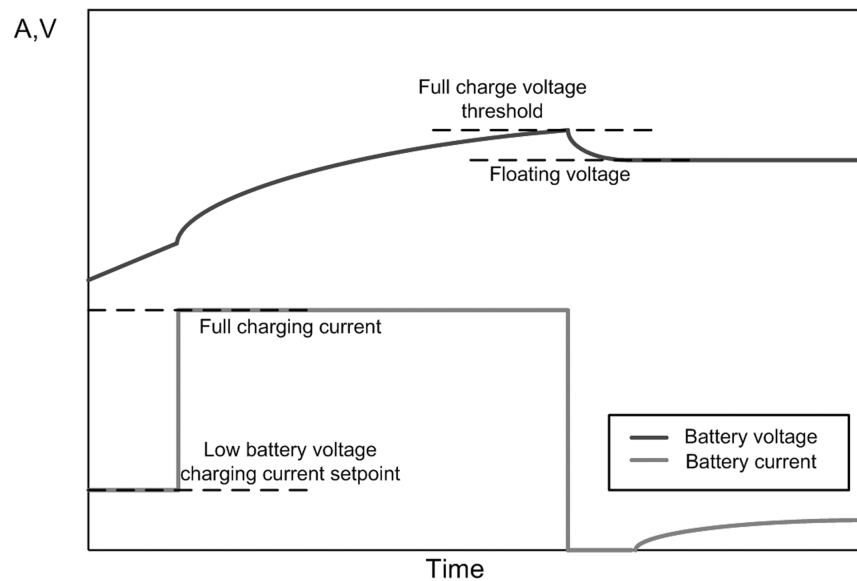

Figure 1. Lead-Acid Charging Profile
Figure 1 shows the lead-acid charging profile used in this reference design.
Step 6: Verify charging profile follows the profile shown in Figure 1.